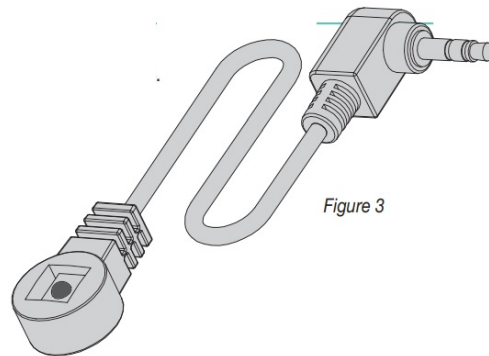

Figure 3
1. Plug Optional IR Eye into mini plug input provided on LVC-IV (see Fig. 3).